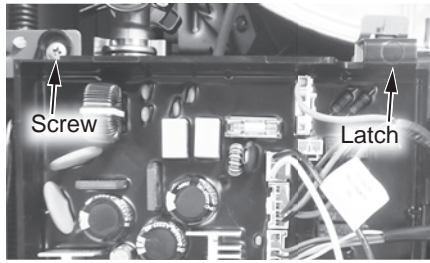

Figure 218 - Control Board screw location
- 13 Locate the two (2) screws at the bottom of the cabinet cover. Use a Phillips screwdriver to remove the screws. Place screws aside in a safe place for reinstallation.
- 15 Locate the screw securing the control board panel. Use a Phillips screwdriver to remove the screw and place it aside in a safe place for reinstallation. See Figure 218.